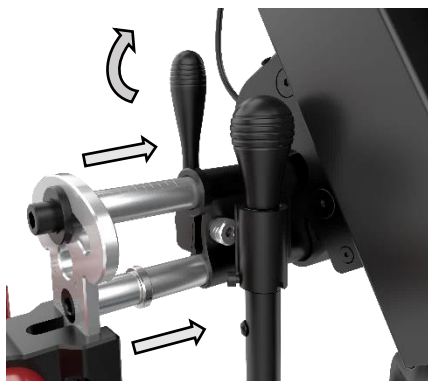

Figure 26. Assembling the Clamp Assembly to the Width Adjustment Assembly
- Insert the two Width Adjusting Rods into the two receiving holes. The QR Lock Levers must be down and loose to receive the Manual Clamp Mechanism. Once the width is established, the Lever is locked upright (see Figure 26).